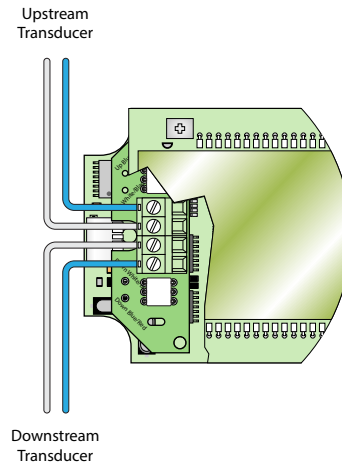

Figure 2: Remote mount connections
2. The remote mount transducers use an add-in connection board on the left side of the meter below the LCD (TFXL meter 2 version). The terminals within the TFXL meter are of a screw-down barrier terminal type. Connect the wires at the corresponding screw terminals in the transmitter. Observe upstream and downstream orientation and wire polarity. See *Figure 2 on page 7*.